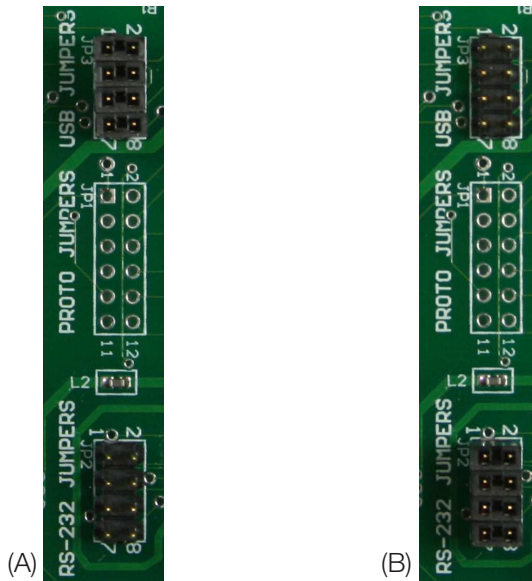

Figure 6: 250 Series Development Board Jumpers; (A) for USB Interface; (B) for RS-232 Interface
3. Set the jumpers on the development boards. If using the USB interface then populate the USB jumpers and remove the RS-232 jumpers (Figure 6 A). If using the RS-232 interface then populate the RS-232 jumpers and remove the USB jumpers (Figure 6 B). Connecting both sets of jumpers at the same time could lead to short circuits and bit collisions, so only use one interface at a time.